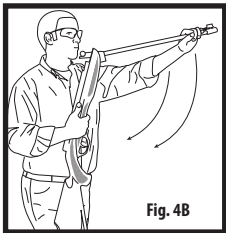

Fig. 4B
6. Quickly and firmly, pull the muzzle end of the barrel down as far it will go to engage the action (Fig. 4B).